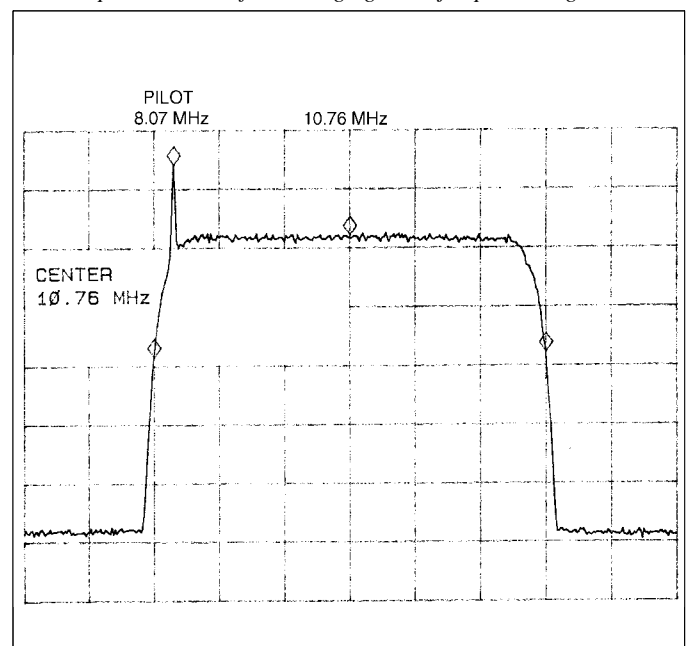

Figure 6-1
The display should appear approximately as shown in Figure 6-1.
- The pilot at 8.07 MHz (the lower -3dB point) should be 9 to 10dB higher than the average level of the signal in the envelope as shown in Figure 6-1.